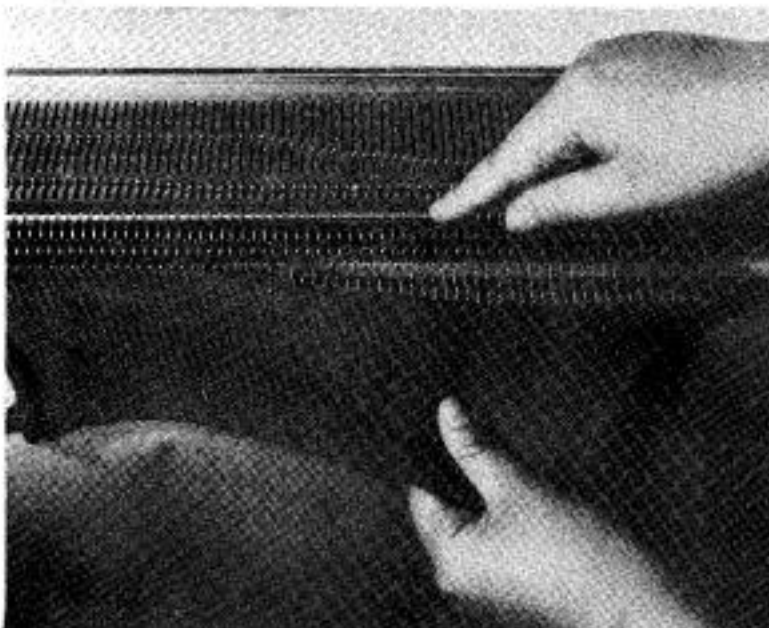

Fig. 54
3. Continue to pull the yarn gently in an upward direction and it will lift out of the needle hooks leaving the stitches of the previous row in the hooks. (Fig. 54)